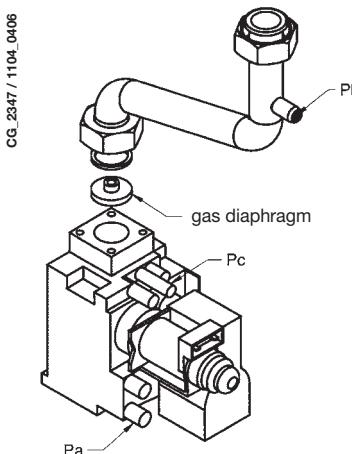

Figure 10
- replace the gas membrane located on the gas valve (figure 10). The diameter of the membrane is specified in table 2.
- connect the positive pressure test point of a differential pressure gauge (possibly water-operated) to the gas valve pressure test point (**Pb**) (Figure 10). Only for models with sealed chambers, connect the negative pressure test point of the manometer to a "T" fitting in order to join the boiler adjustment outlet, the gas valve adjusting outlet (**Pc**) and the pressure gauge. (The same measurement can be made by connecting the pressure gauge to the pressure test point (**Pb**) after removing the front panel of the sealed chamber);
- make sure that the dynamic inlet pressure of the boiler, measured at the gas valve pressure test point (**Pa**) (Figure 10) is correct (37 mbar for propane or 20 mbar for natural gas).
If the natural gas inlet pressure is too low (less than 17 mbar) remove the gas diaphragm installed over the gas valve (fig. 10) and set parameter **F02=00** on the electronic board (§21).
- adjust the "**Pmax/Pmin**" screw (figure 10) to set the burner pressure value as described in table 1.
- To adjust pressure at maximum power, turn the "**Pmax**" screw (fig. 10) clockwise to increase or anti-clockwise to decrease pressure at the burner.
- To adjust pressure at minimum power, turn the "**Pmin**" screw (fig. 10) clockwise to increase or anti-clockwise to decrease pressure at the burner.